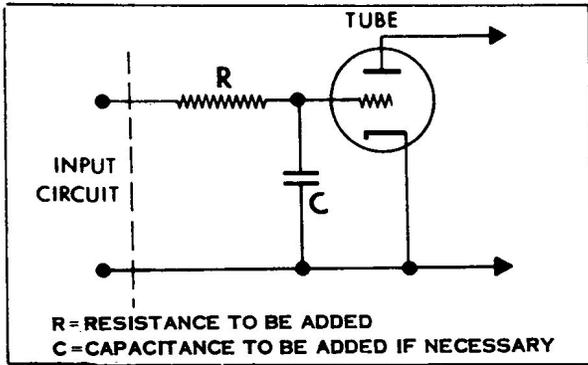

FIG. 1
- Figure 1 Elimination of RF Interference